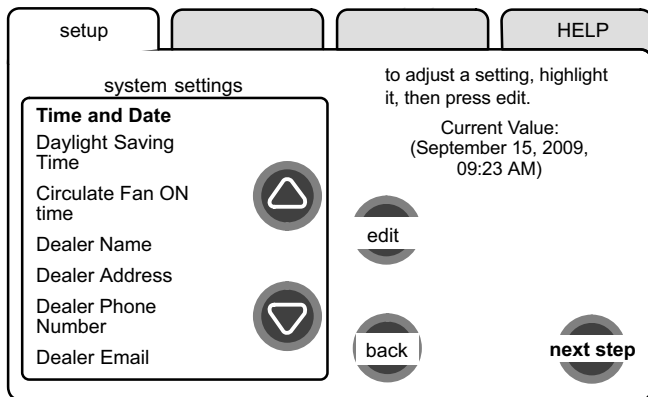
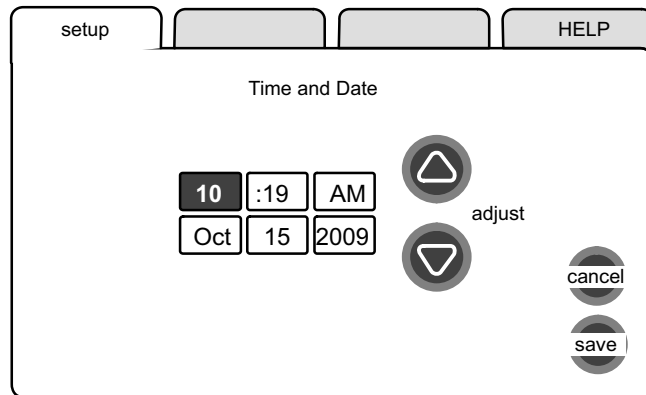

Figure 7. View/edit time and date
Figure 8. Set current time and date
Use the arrows to select **Time and Date**; press **edit** (see figure 7). Press **next** to proceed to the "Set current time and date" screen (figure 8).
- Press one of the time and date boxes - the text will change to white type in a dark box (for example, press the "10" box in figure 8).